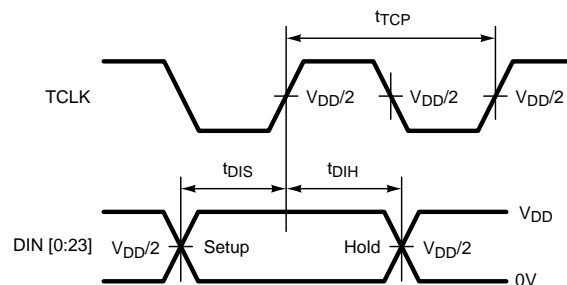

Figure 5. Serializer Setup/Hold Times
| t TCP  | Transmit Clock Period      | (Figure 5)      | 25   | T    | 333  | ns       |
(2) Figure 5 Figure 15 show a rising edge data strobe (TCLK IN/RCLK OUT).
(3) tJIT (@BER of 10e-9) specifies the allowable jitter on TCLK. tJIT not included in TxOUT\_E\_O parameter.